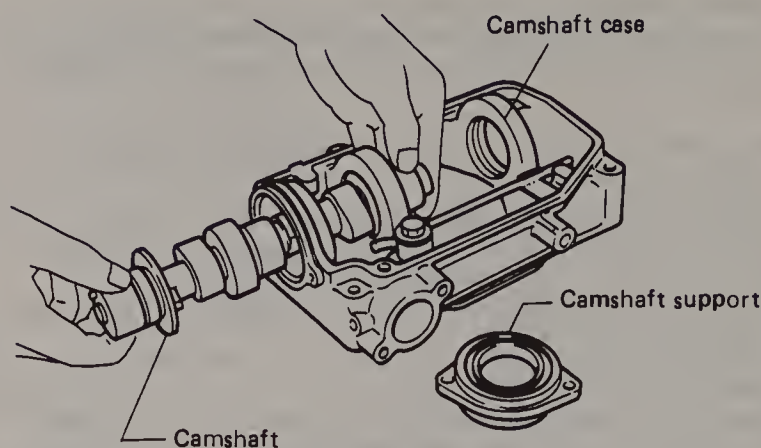

Fig. 13.19 Unbolt the camshaft support and remove the camshaft from the case (Sec 5)
- 94 Remove the camshaft from the camshaft case (Fig. 13.19).